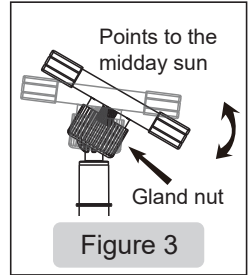
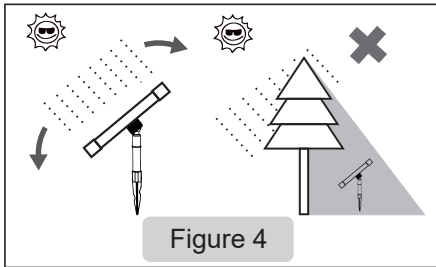

Figure 3
Figure 4
- 3) Find a sunny place that is shadow-free all day long and install the solar panel by the ground spike. Point the solar panel towards the midday sun to maximize its exposure to the sunlight throughout a day, and then lock the ball joint by tightening the gland nut as shown in **Figure 3** and **Figure 4**.